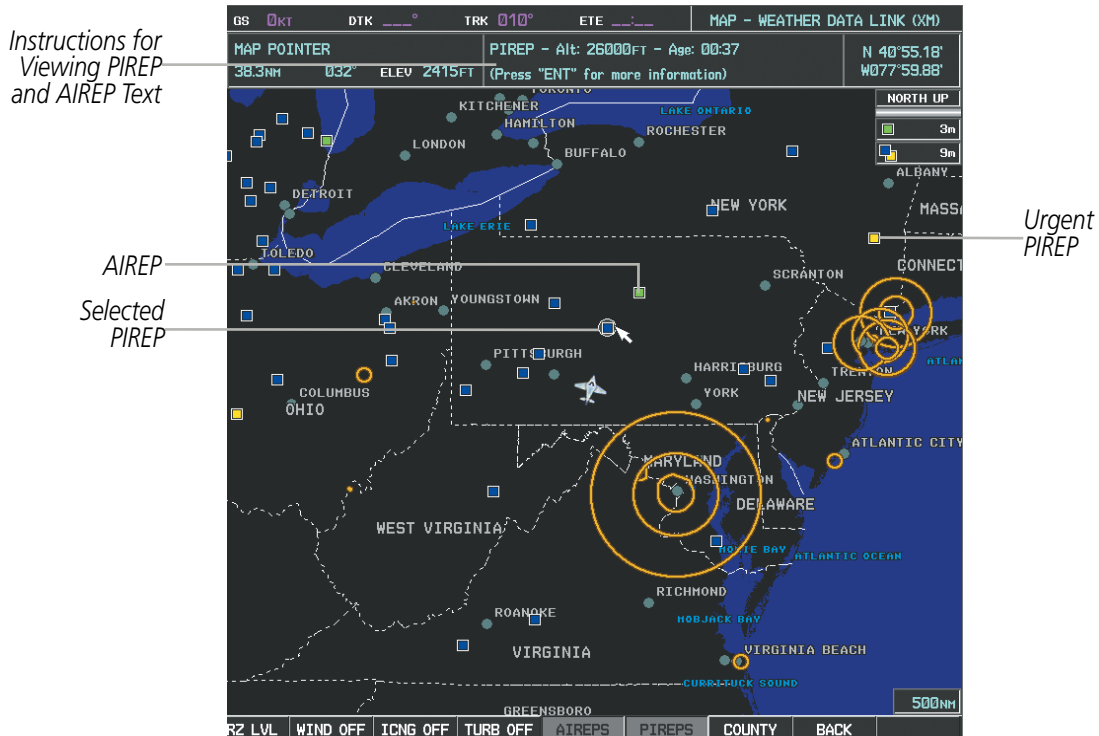

Figure 6-47 AIREPs and PIREPs on the Weather Data Link (XM) Page
Pilot Weather Reports (PIREPs) (Figure 6-47) are in-flight weather reports collected from pilots. When significant weather conditions are reported or forecast, Air Traffic Control (ATC) facilities are required to solicit PIREPs. A PIREP may contain adverse weather conditions, such as low in-flight visibility, icing conditions, windshear, and turbulence. PIREPs are issued as either Routine (UA) or Urgent (UUA).